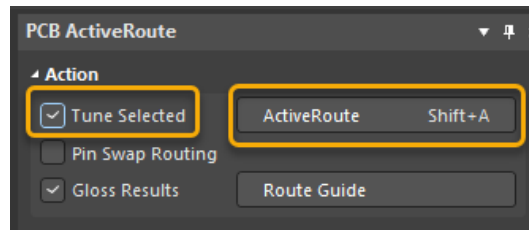
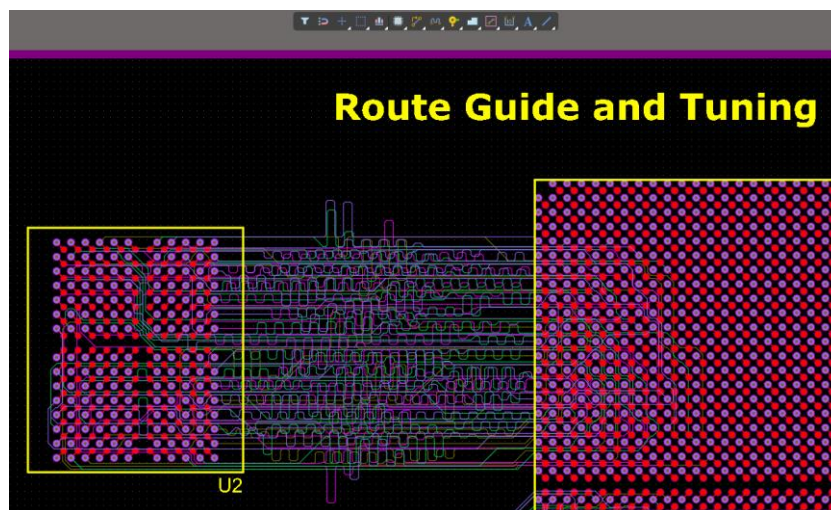

Figure 13. Tuning Option
Figure 14. Completed routing with length matched tuning
33. Next, ensure the tuning option is selected in the ActiveRoute panel, and then select ActiveRoute as shown in Figure 13. The finished routing and tuning should look similar to Figure 14.